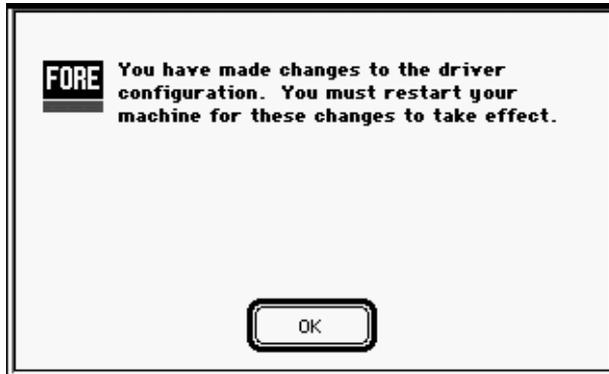

Figure 4.18 - Driver Configuration Change Alert Screen
6. Click `OK` when you have finished entering the ATM address. The prompt shown in Figure 4.18 appears.